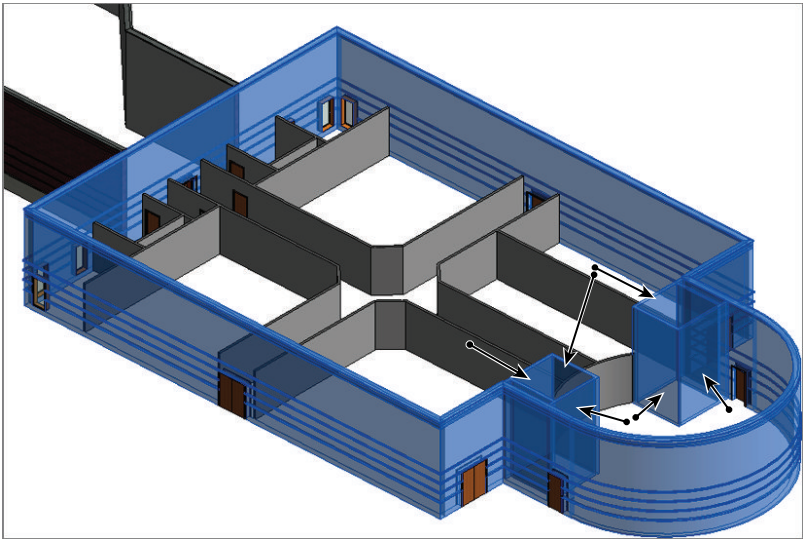

FIGURE 3.20: Selecting the walls that extend to the Parapet level
2. The next step is to select all the walls you want to be extended to the Parapet level. In this case, only the east building will go all the way up to this level. Select the exterior and the elevator shaft walls, as shown in Figure 3.20. (Be sure to select all of the elevator shaft walls as well.) You must hold the Ctrl key to add to the selection. The walls turn blue when they're selected. You can also hover over one of the walls and press the Tab key. Once the walls are highlighted, pick a wall. All of the walls will be selected.